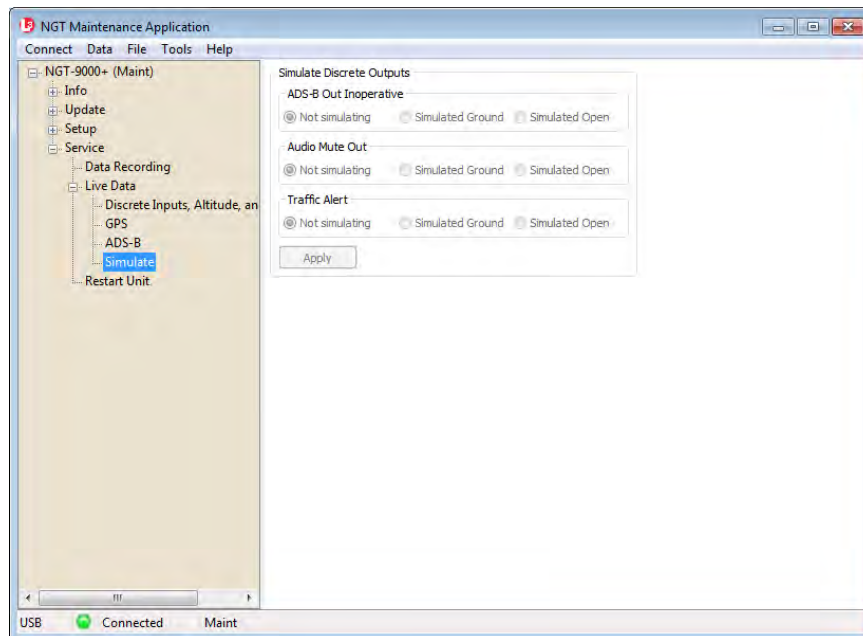

Figure 3-18: Lynx MAT – Live Data - Simulate
1. From the Lynx MAT select Service→Live Data→Simulate. An example of this page is shown in Figure 3-18.